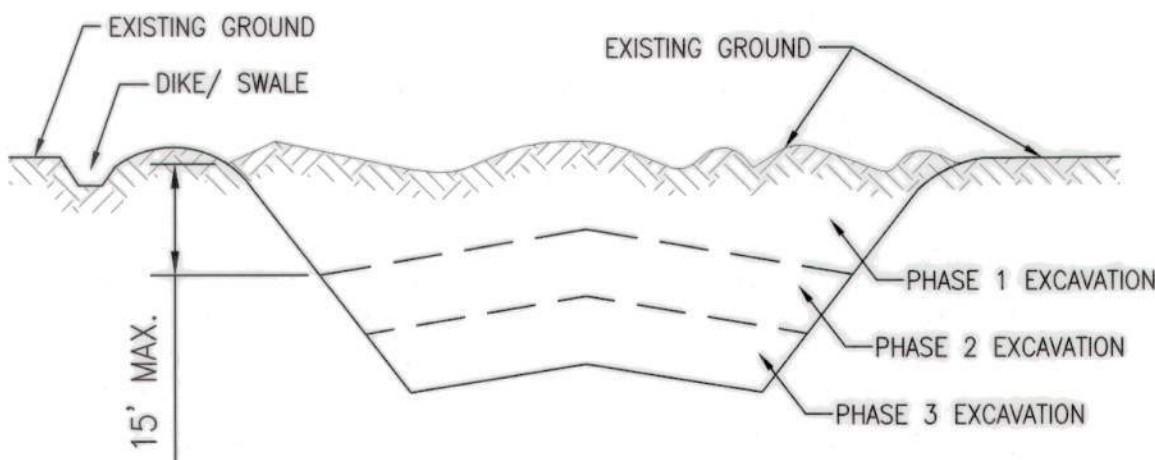

Figure B.1: Incremental Stabilization – Cut
- Construction sequence example (Refer to Figure B.1):